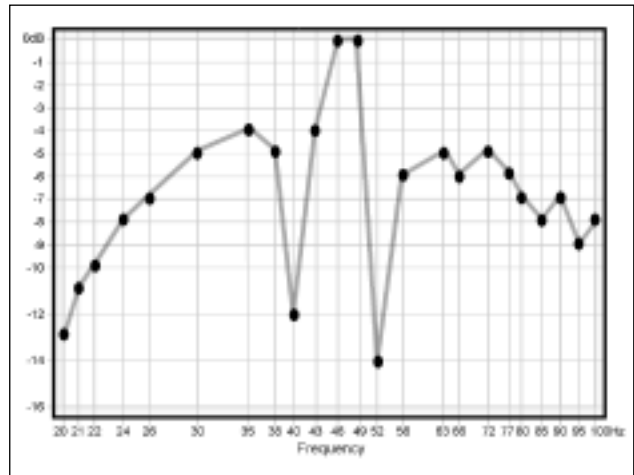

Figure 20. Example of two narrow dips
1. Select a new test position: Cue the test track corresponding to the center frequency of the dip. In the example in Figure 20 you would play Tracks 14 (52Hz) and 18 (40Hz). Press **Play** ▶. You will see a reading very close to what you had before. Now, slowly move the RSLM around the area, if possible remaining within about a foot of the original test point. As you move the RSLM, watch the bar graph. You will observe large level fluctuations. Find a location for the subwoofer or a test location that raises the response at these frequencies. You may find it helpful to move the RSLM vertically. Dips can be oriented in any axis. The position that restores the level to about that of the adjacent test points is your new test position.